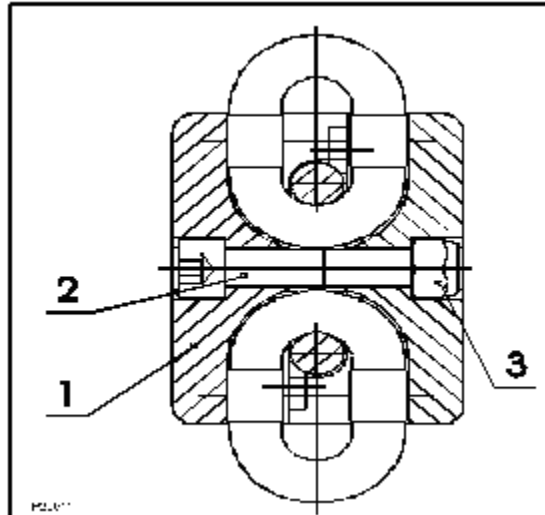

FIGURE 5.6
4. Attach fall stop at least 6.0 inches [150 mm] from end of chain (chain container side). Attach load block assembly on other end of load chain. Refer to Figure 5.6 for details.
6. Attach fall stop 6.0 inches [150 mm] from end of chain (chain container side). See Figure 5.6 for details.
1. Position two fall stop halves (item 1, Figure 5.6) on chain link at least six (6.0") inches [150mm] from end of load chain.
2. Insert screw (item 2) through fall stop halves and chain link.
3. Tighten nut (item 3) per torque setting in section 6.4.